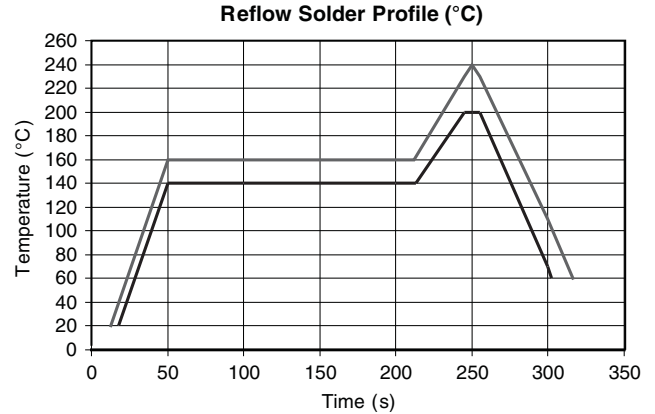
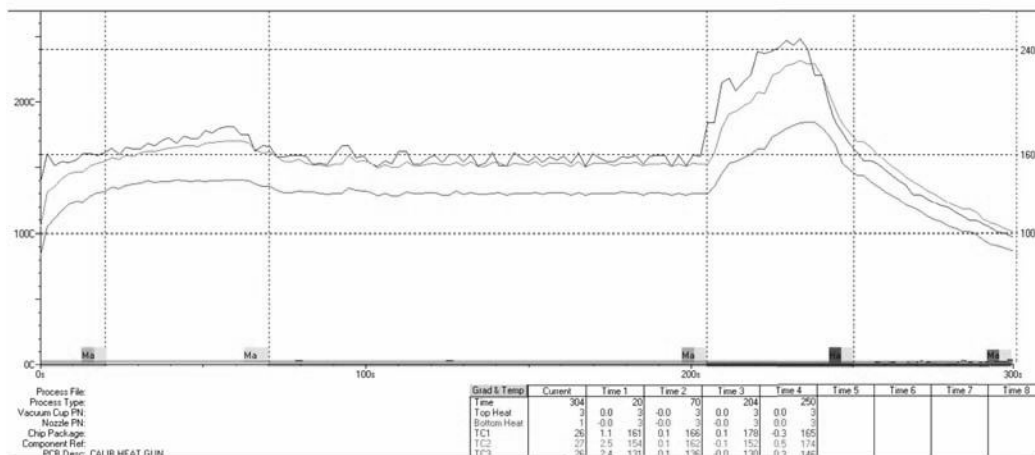

Fig. 5a - Recommended Reflow Profile in Celsius (Red = Maximum Values, Blue = Minimum Values)
Fig. 6 - Reflow Profile generated by using Heat Gun
1. The Vishay reliability manual, available online at www.vishay.com/docs/80126/80126.pdf, covers the recommended basic reflow profile definitions. Graphical representations of the recommended reflow profile in degrees Celsius and in Fahrenheit are shown in figure 5a and 5b respectively. The temperature values indicated by the red line show the maximum values and those indicated by the blue line show the minimum values.
- Observe the temperature reflow profile in figure 6, which matches the recommendations in figure 5a and 5b.